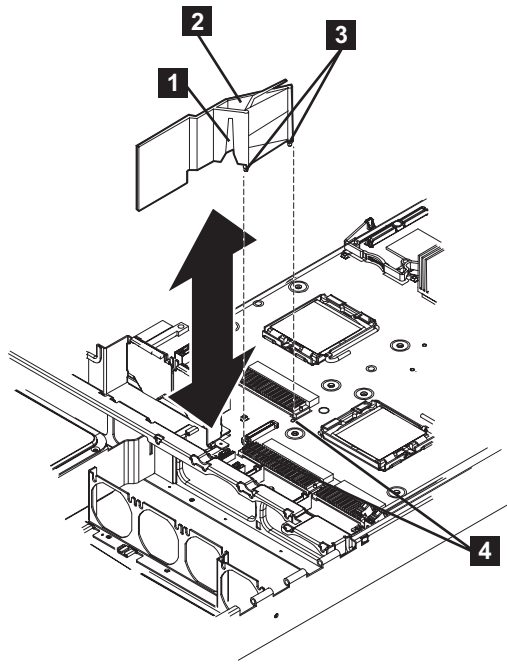

Figure 210. SAN Volume Controller 2145-8G4 air baffle
6. Remove the air baffle (**2** in Figure 210 on page 226).